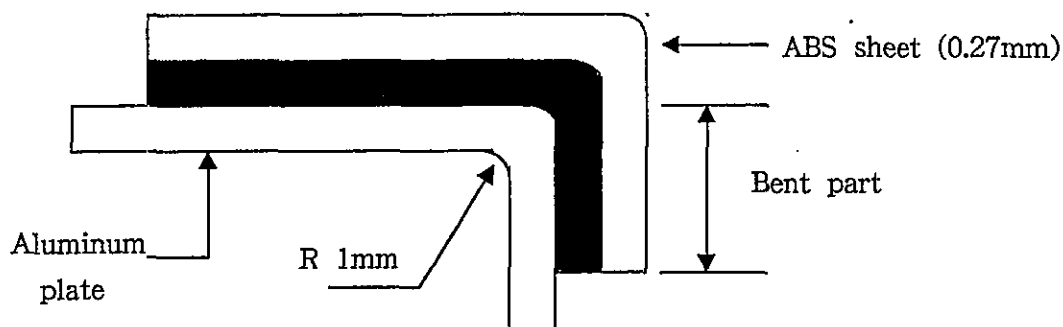

Figure 5 : Repulsion testing method
- (1) Testing method : Repulsion resistance at bent part.
- (2) Substrate : 0.27 mm ABS sheet + aluminum plate
- (3) Measuring temperature : After leaving specimen at 20°C for 24 hours ; after 10 cycles of changing temperature from -10°C to 60°C.
- (4) Measuring method : As shown in figure 5, leave specimens with bent part of different length under specified conditions. After that, check lifting of ABS sheet.